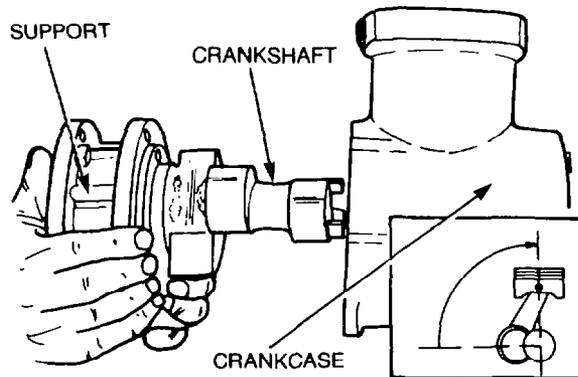

Figure 254 — Crankshaft — Installation
i. Position the piston approximately 10 mm (0.394 in.) down from the top of the cylinder bore, then lubricate the crankshaft connecting rod journal with clean engine oil. Position a new gasket at the crankcase and install the crankshaft (see Fig. 254) and secure the support with the four washers and bolts. Torque the bolts to 41-47 Nm (30-35 lb.ft).